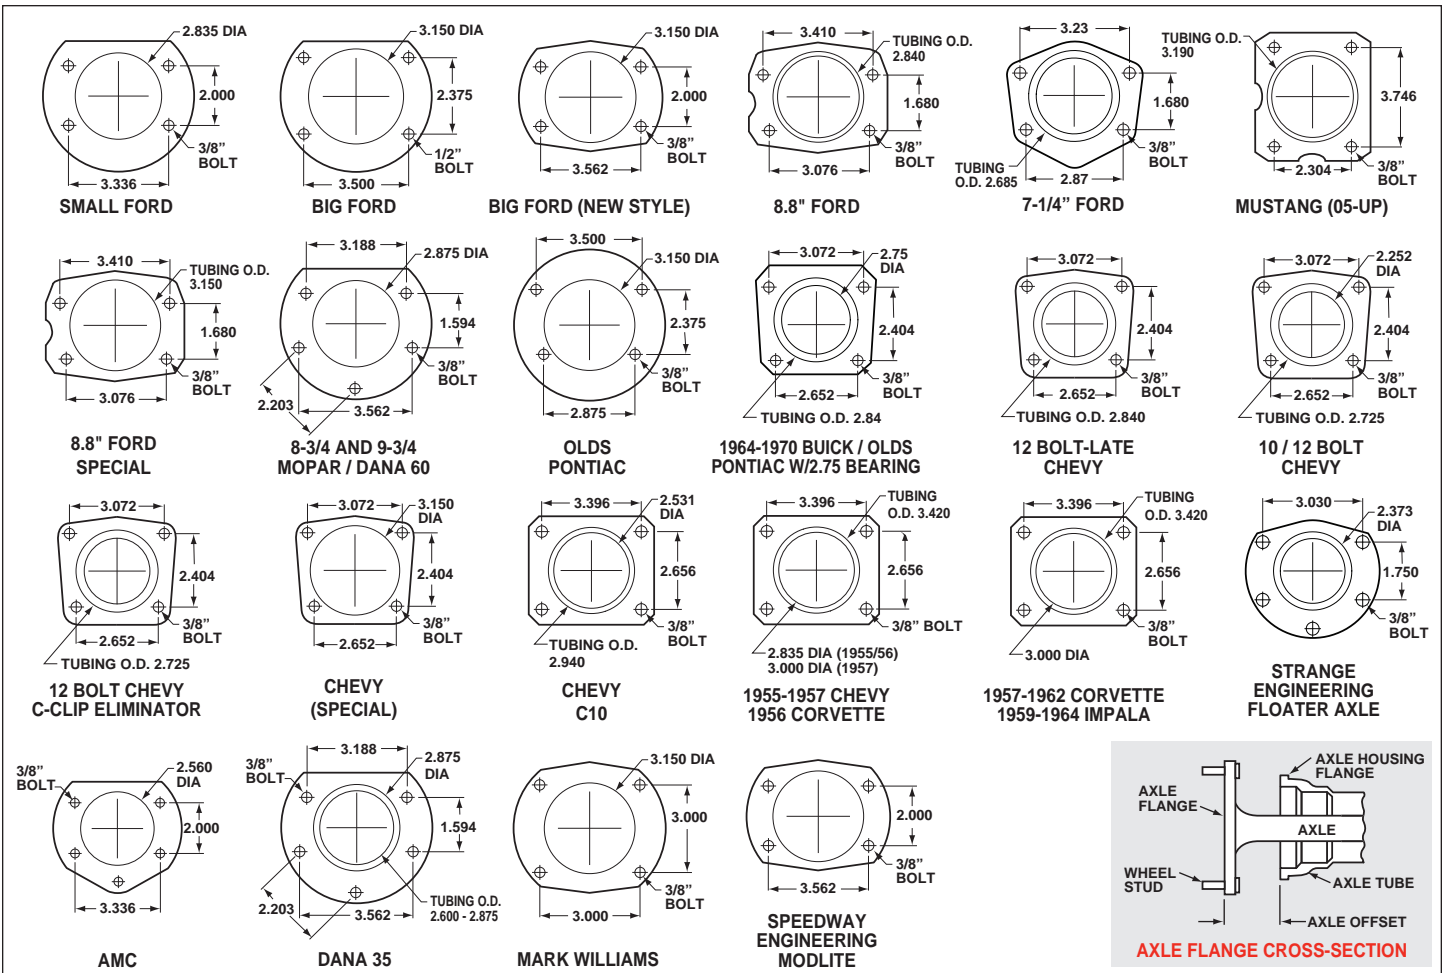

Figure 6. Rear Housing Flange Chart and Axle Flange / Offset Cross-Section
- Make sure this is the correct kit to fit the axle housing flange, not necessarily the rear end make. Many times after market manufacturers put a different make of axle housing flange on the stock rear end housing (see Figure 6). Example; Big Ford rear ends with Olds-Pontiac flanges, therefore, an Olds-Pontiac rear disc brake kit would be the correct kit to order. Also, shock clearance may be a problem. They may have to be modified and/or relocated to clear the Wilwood kit after final assembly.
- Bearing outside diameter, Figure 6, 3.15".
- Dimension from wheel side of axle flange to wheel side of axle housing flange (see Figure 6, lower right hand corner). This dimension is critical to ensure proper alignment of the rotor to the caliper, and should match offset given in the kit description.